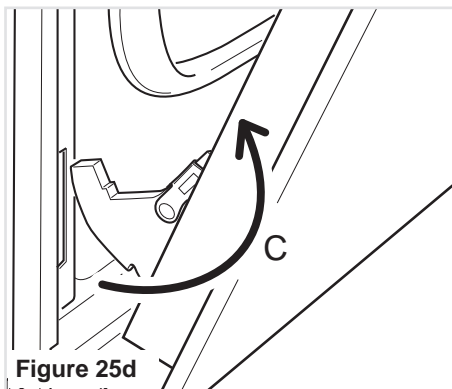

Figure 25d
- Withdraw the hinge hooks from their location following arrow “C” (fig. 25d).